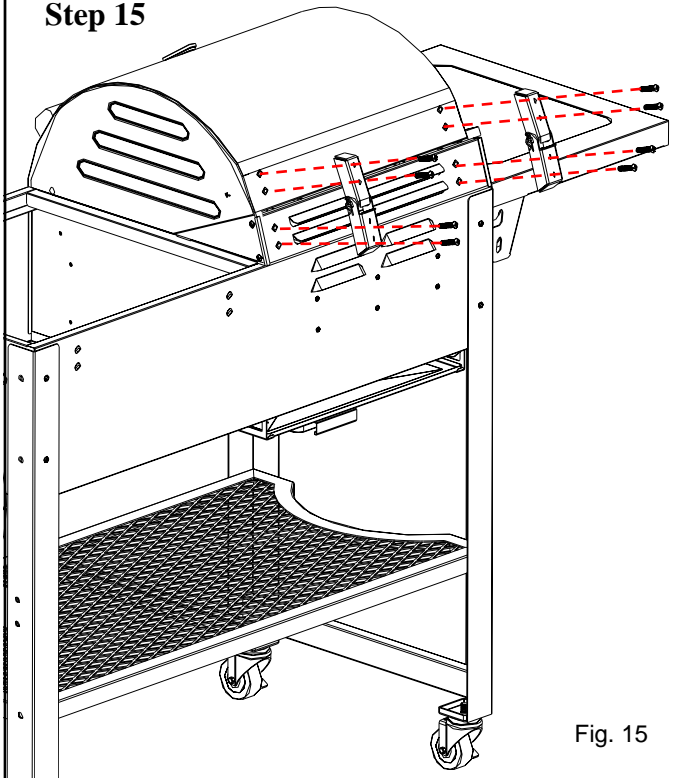

Fig. 15
Refer to Fig. 15, attach Gas Grill Lid and Wind-screen to (2) Hinge Assemblies using (8) M6X35 Bolts as shown.